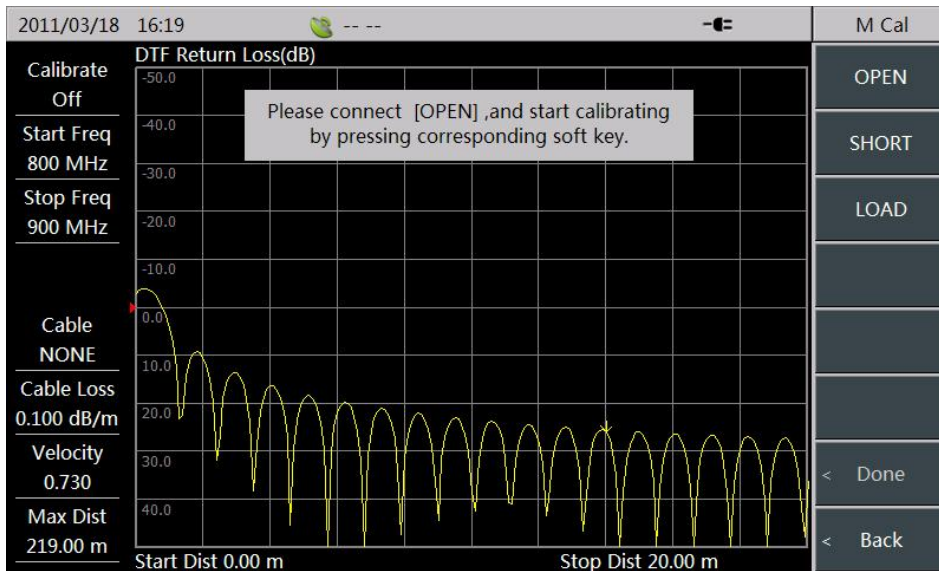

Figure 3-9 Open circuit under Calibration
- Connect the calibration kit of open circuit, and then select the [Open] menu. At this time, the screen will automatically prompt “[OPEN]Measuring.....”, as shown in Figure 3-9; When the [OPEN] menu becomes into [OPEN] and tips of connecting other calibration kits are shown in the screen, the calibration of this calibration kit has been finished.